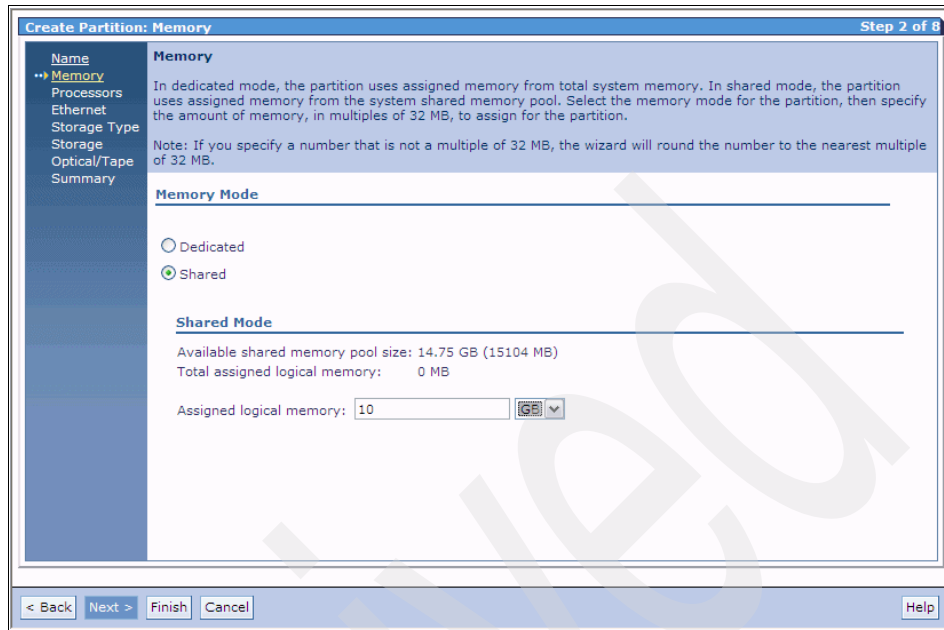

Figure 5-13 Selecting memory mode and amount for a shared memory partition
2. In the Create Partition Memory window shown in Figure 5-13 on page 191, select the now-available **Shared** option. The window refreshes with shared mode memory information and an area in which to enter the amount of memory. The information displayed shows the total amount of shared memory in the pool and the cumulative total of assigned logical memory. The first shared memory LPAR created indicates 0 MB in this field. Enter the desired amount of logical memory in the box and click **Next**.